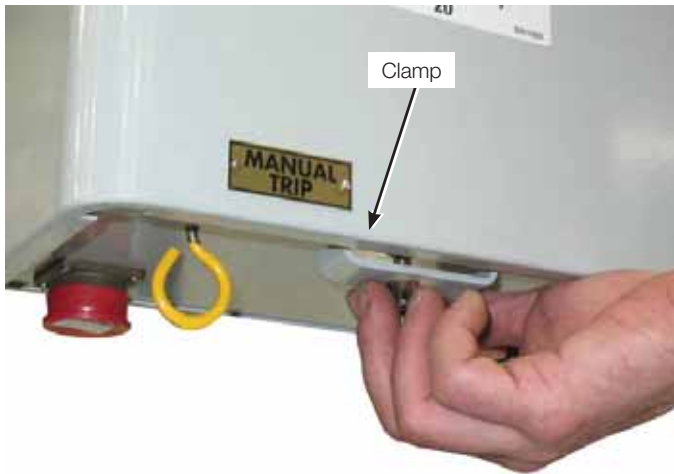

Figure 22.
- a.** Hold the operating mechanism cover in place to prevent it from falling. Loosen the wing nut securing the cover and move the clamp aside. Refer to Figure 22.